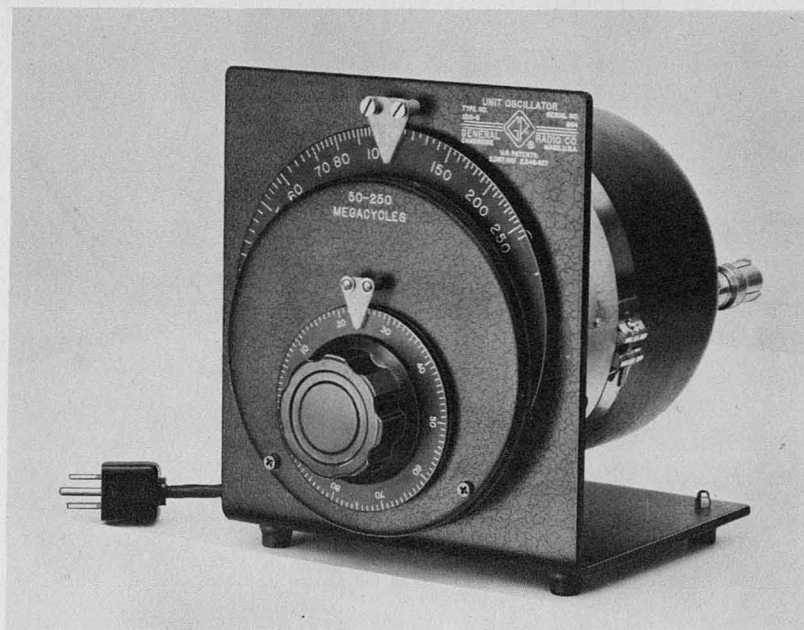

Figure 1. Type 1215-B Unit Oscillator
1.1 PURPOSE. The Type 1215-B Unit Oscillator (Figure 1) is a general-purpose radio-frequency oscillator, covering the range of 50 to 250 Mc. It can be used to drive bridges, admittance meters, impedance meters, impedance comparators, and other such equipment. Used with a voltmeter and attenuator it provides an accurately known output voltage for receiver testing. Direct amplitude modulation is possible over the audio-frequency range, and amplitude modulation free from incidental fm can be obtained from 0 to 5 Mc with a simple crystal diode modulator such as the General Radio Type 1000-P6. Connected to a mixer such as the Type 874-MR, the Unit Oscillator can be used as the local oscillator of a heterodyne receiver to convert a low-frequency communications receiver into a detector for vhf signals. Pulsing and linear 100-percent amplitude modulation can be obtained with an external balanced modulator.